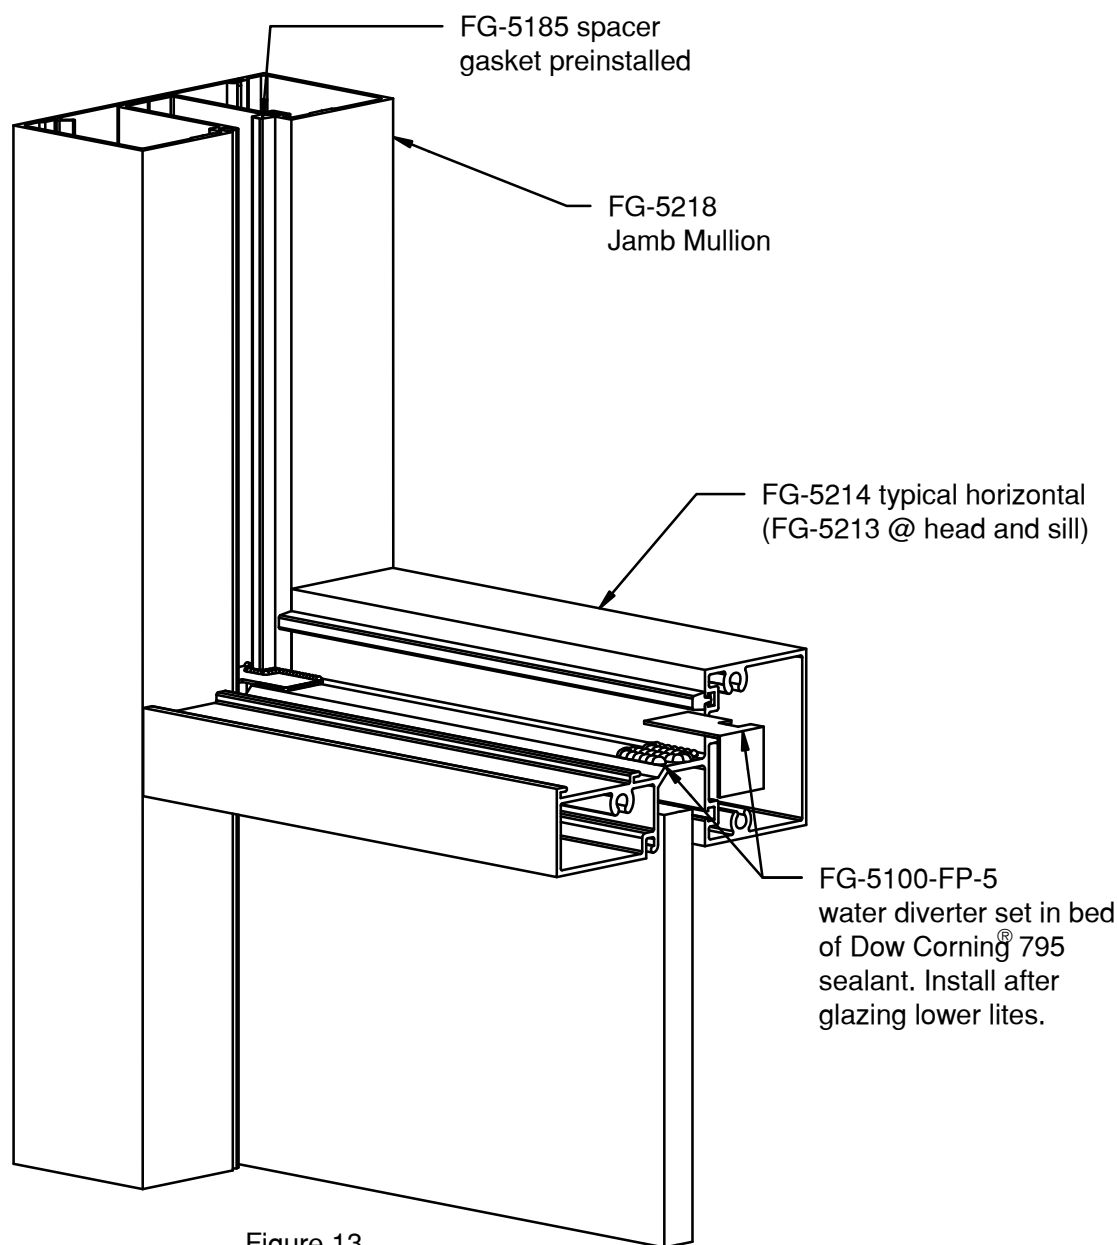
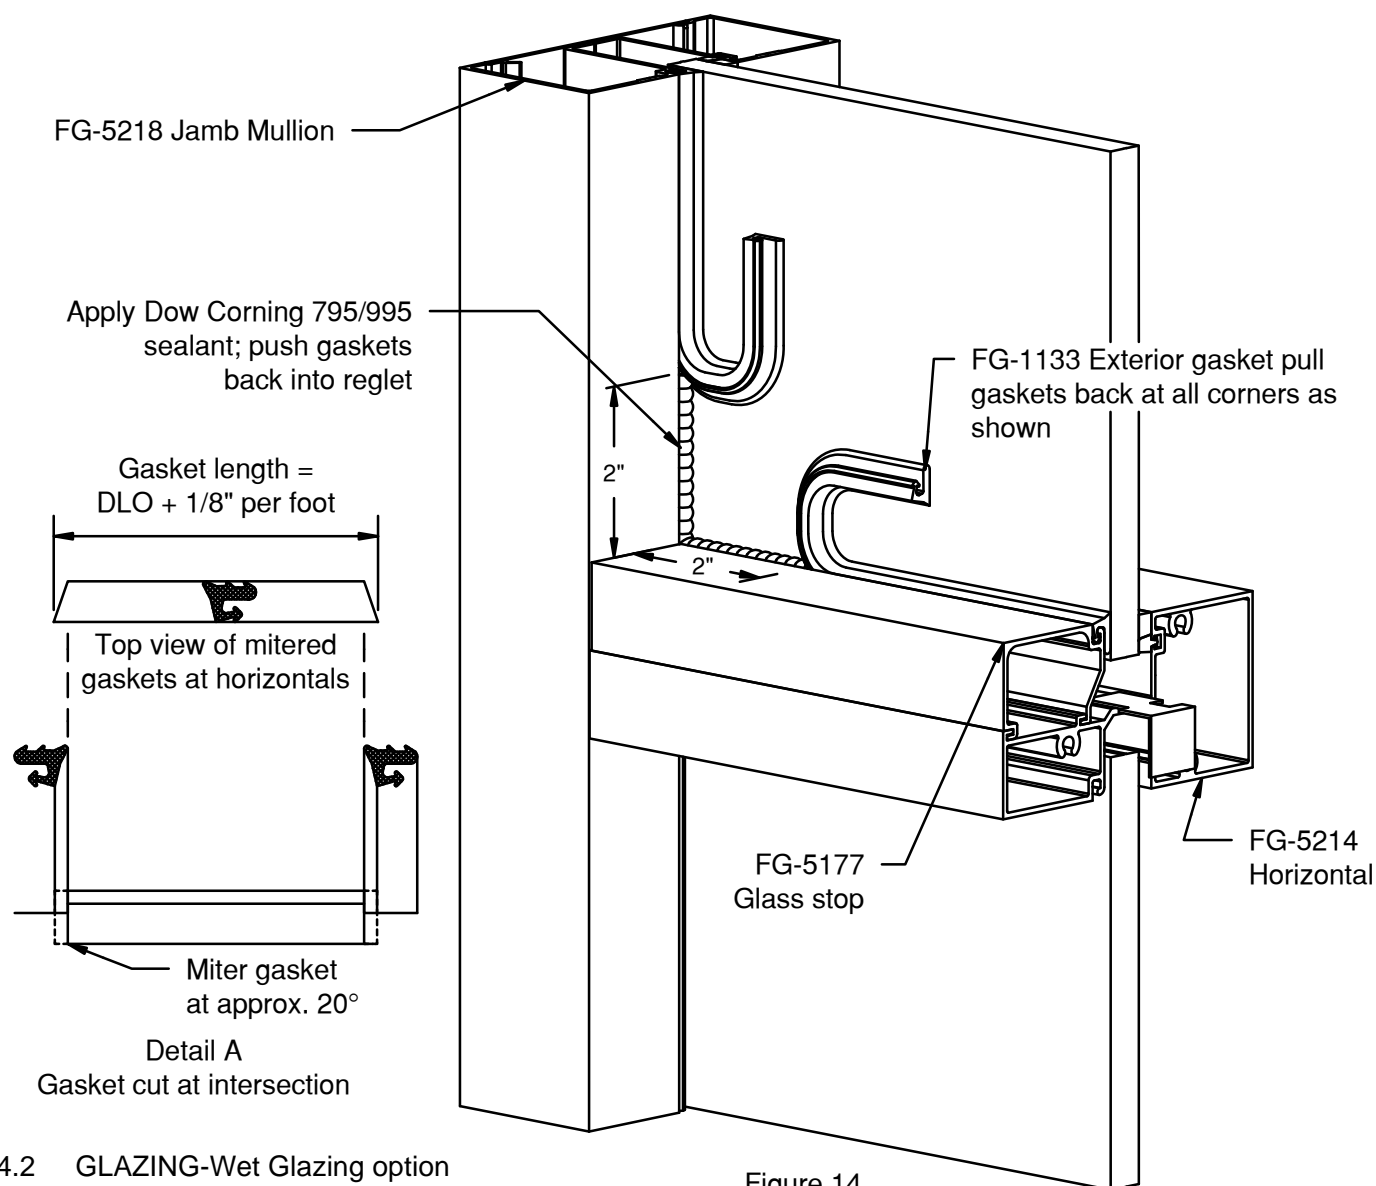
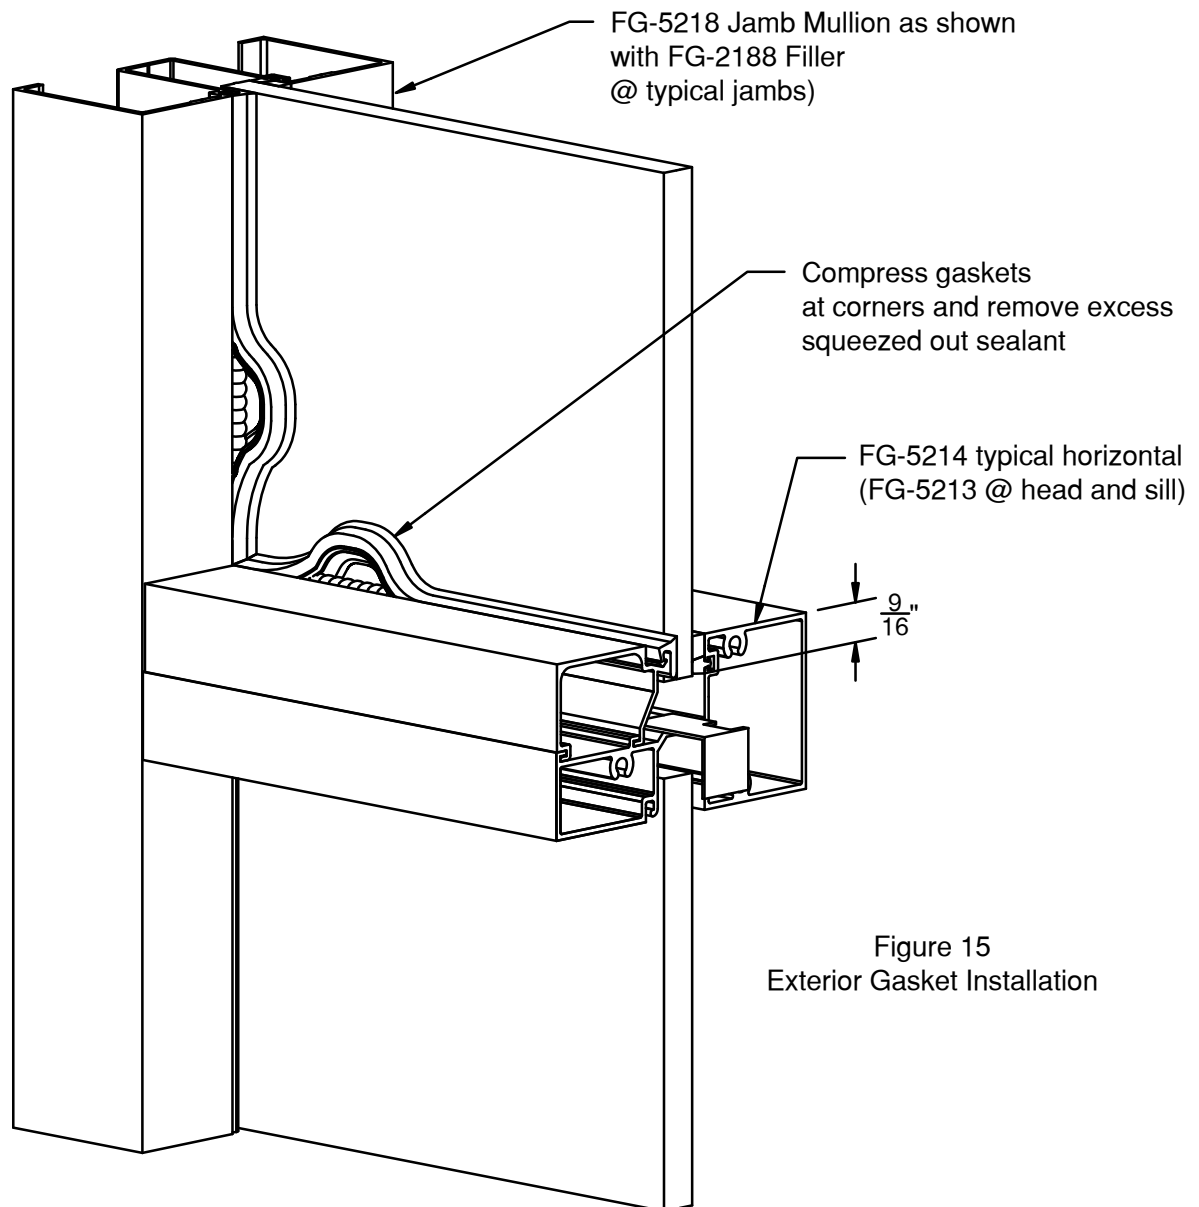

Figure 13
Figure 14
Figure 15
- 4.1.2 Install water diverters see Figure 13 after lower lite is in position.
- 4.2.4 Cut gaskets a minimum of 1/8" per foot longer than daylight opening to provide for adequate compression. as shown at Figure 14 detail A.
- 4.2.5 After gaskets are pressed in place. Pull gasket from pocket as shown in Figure 13 above. Clean glass and gaskets a minimum of 2" from each end with isopropyl alcohol. Apply Dow Corning® 795/995 sealant see Figure 14. Push gaskets into reglet, See Figure 15 on Page 17.